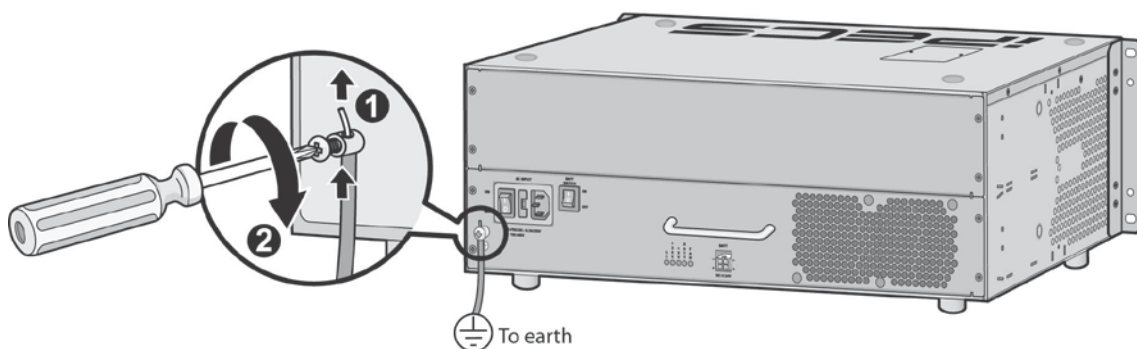

Figure 3.6.1-1 Grounding the KSU
2. Loosen the Ground lug screw by turning the screw counter-clockwise to loosen, as shown in Figure 3.6.1-1.